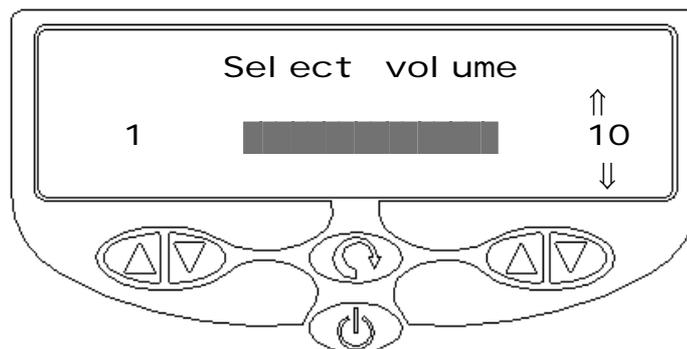

Fig 4.6 Screen for Alarm volume selection
**Volume Adjustment** - The activation tone volume can be adjusted between minimum and maximum using the up control of the desiccate (blue) power control. Depress and release the Mode / Menu button until the symbol “**SELECT VOLUME**” appears (Fig 4.6 Screen for Alarm volume selection). Press and release the Mode / Menu button once more to accept the setting.